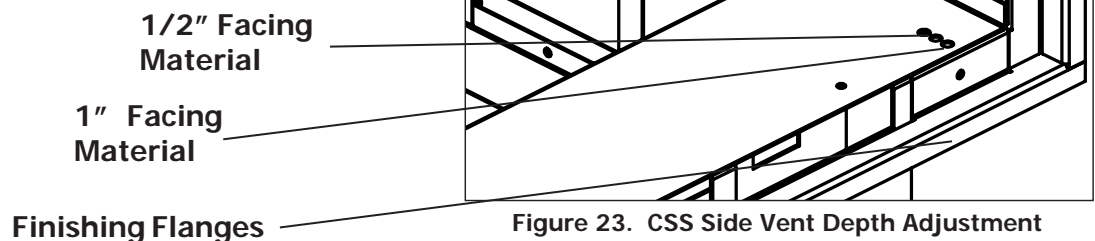

Figure 23. CSS Side Vent Depth Adjustment
Step 14: The desired facing/finishing material can now be installed around the side vent outlets by tucking the cut edges in behind the integrated finishing flanges of the side brackets (see figure 23, page 16).